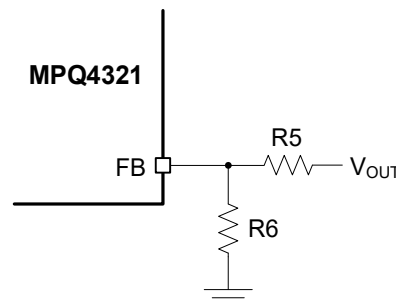

Figure 1: Feedback Divider Network with Adjustable Output
9. The external resistor divider sets the output voltage (V_{OUT}) (see Figure 1).